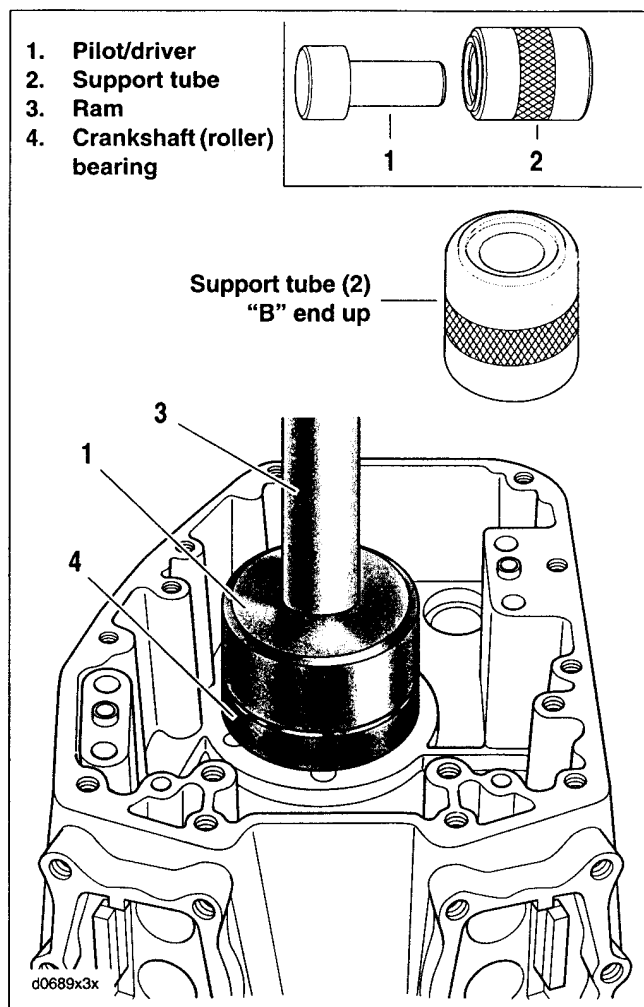

Figure 3-155. Crankshaft (Roller) Bearing Installation
1. See Figure 3-155. Obtain CRANKSHAFT (ROLLER) BEARING REMOVAL/INSTALL PILOT/DRIVER (Part No. B-45655) and CRANKSHAFT (ROLLER) BEARING REMOVAL/INSTALL SUPPORT TUBE (Part No. HD-42720-5).
2. Obtain **new** crankshaft (roller) bearing (4). Spread a thin film of clean engine oil on O.D. of **new** bearing.
3. Turn support tube (2) over so that the "B" end is up. The sides of the support tube are stamped "A" and "B" to ensure proper orientation.
6. Slide pilot/driver (1) through bearing into support tube.
7. Center pilot/driver under ram (3) of press. Apply pressure to pilot/driver until resistance is felt and bearing is bottomed on the support tube.